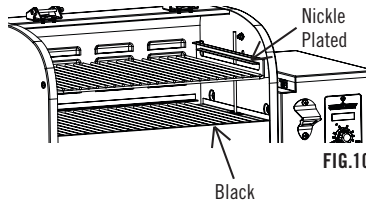

FIG. 10
1. Install the cooking grate as shown in Fig 10.